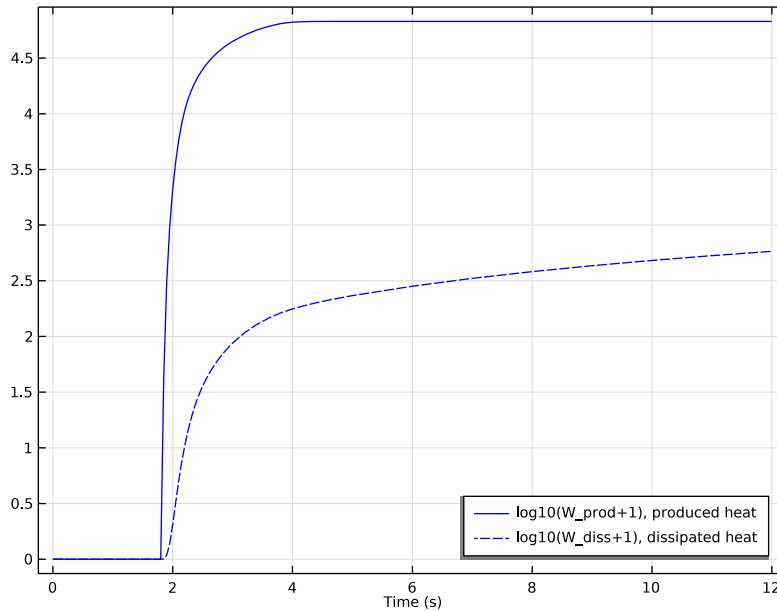

Figure 7: Comparison of total produced heat (solid line) and dissipated heat (dashed).
To investigate how much of the generated heat is dissipated to the air, study the surface integrals of the produced heat and the dissipated heat. These integrals give the total heat rate (W) for heat production,  $Q_{\text{prod}}$ , and heat dissipation,  $Q_{\text{diss}}$ , as functions of time for the brake disc. The time integrals of these two quantities,  $W_{\text{prod}}$  and  $W_{\text{diss}}$ , give the total heat (J) produced and dissipated, respectively, in the brake disc. Figure 7 shows a plot of the total produced heat and dissipated heat versus time. Eight seconds after the driver has stopped braking, a mere fraction of the produced heat has been dissipated. In other words, in order to cool down the system sufficiently the brake needs to remain disengaged for a much longer period than these eight seconds (100 seconds, in fact).